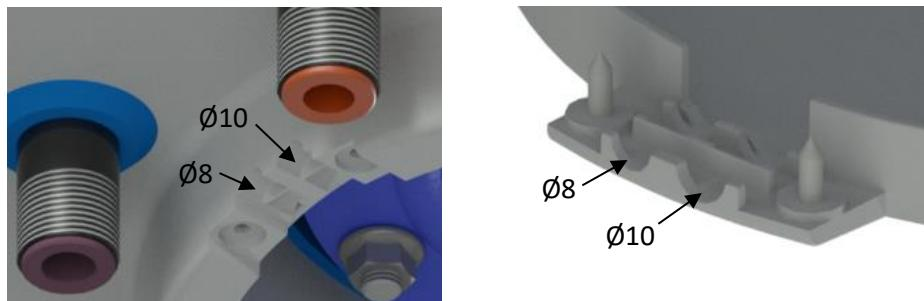
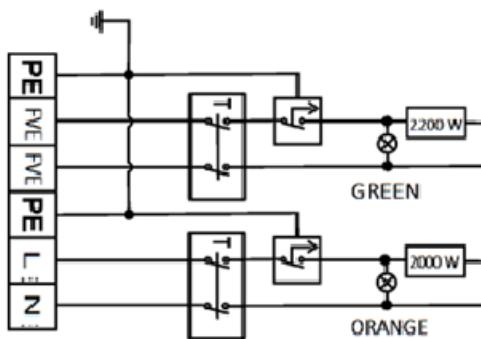

Figure 7
Figure 8
Connect according to the connection diagram. The factory wiring must not be changed! (Figure 8). Remove the partition in the electrical installation cover corresponding to the diameter of the supply cable  $\varnothing 8$  or  $\varnothing 10$  (Figure 7). The degree of protection of the electrical parts of the heater is IP 44. The power consumption of the electric elements is 2200 W and 2000 W for the OKCE 2/2 kW heater.
- The electrical connection diagram is also attached to the heater on the electrical installation cover (Figure 8).